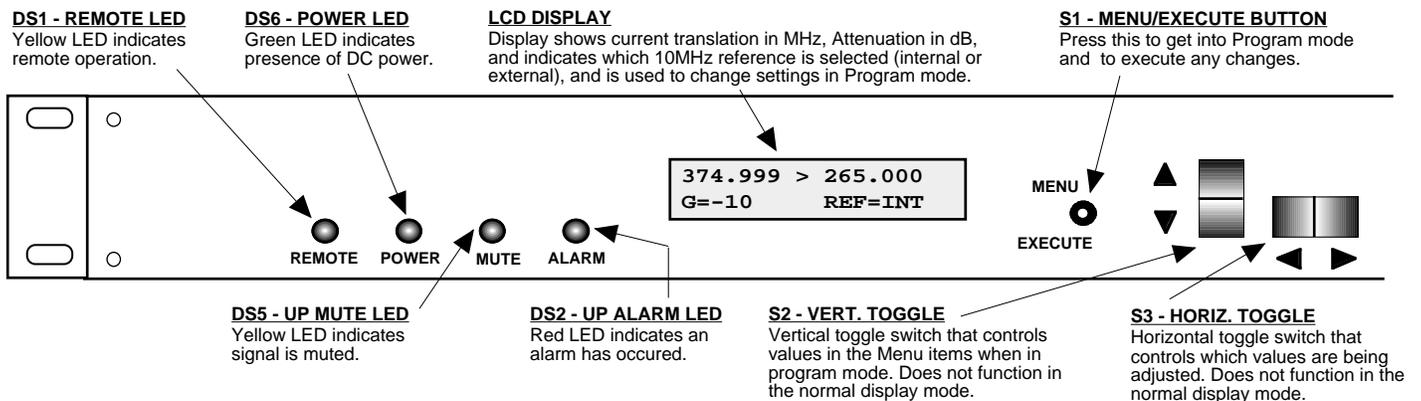

FIGURE 2.2 2083-43 Front Panel Controls and Indicators
6. Be sure DS6 (green, POWER) is on and DS2 (red, ALARM) is off (Figure 2.2).
Alarm indications appear on the LEDs (see figure 2.2).